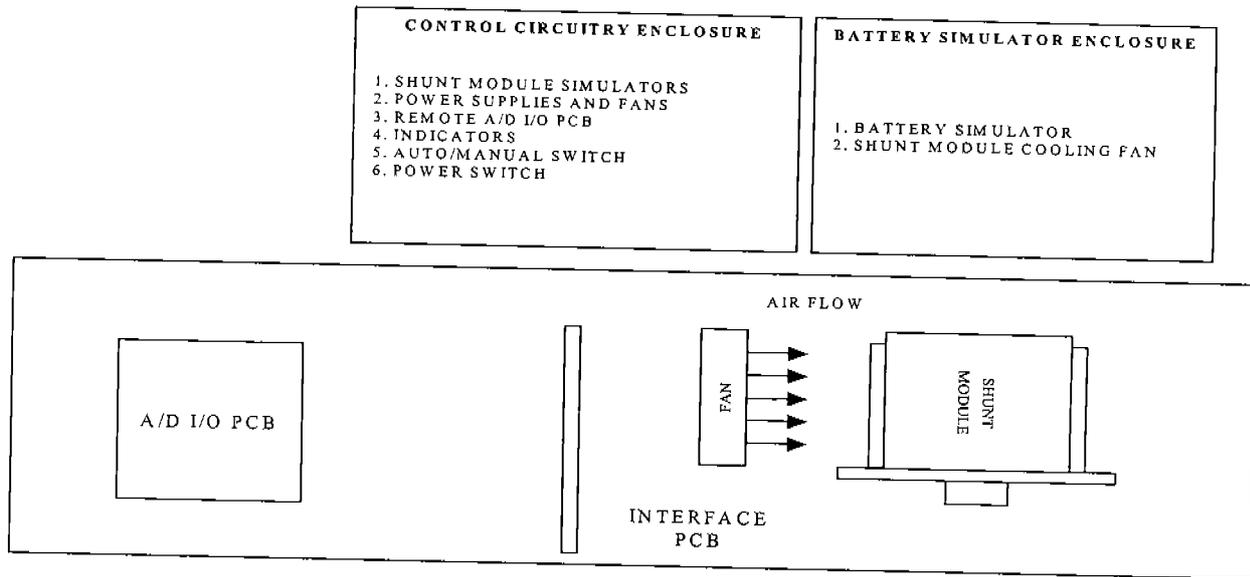

FIGURE 1-2 Top view of Test Stand
- 1.3.1 Figures 1-2 through 1-3 show physical layout views of the test stand.
- 5.1 Setup the test stand in accordance with Figures 1-2 through 1-4.